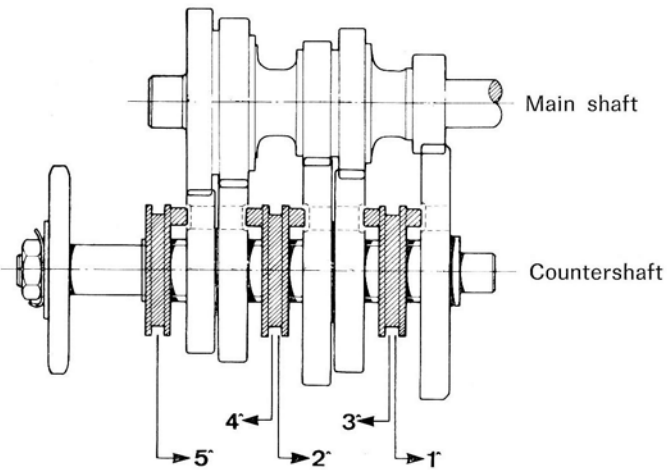

Fig. 7
**Gear box:** five speed drive with selector controlled by pedal located at the L. H. of the vehicle (see fig. 7).